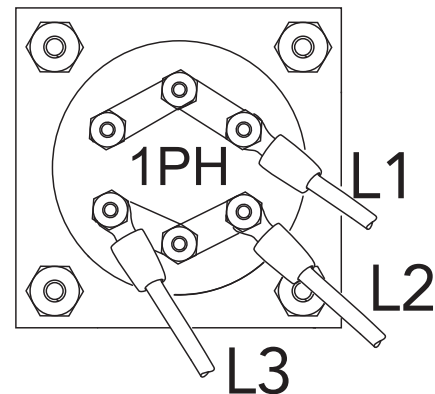

Fig. 16 - 1PH tank element connections
1. Rewire tank heater wires according to Fig. 16.